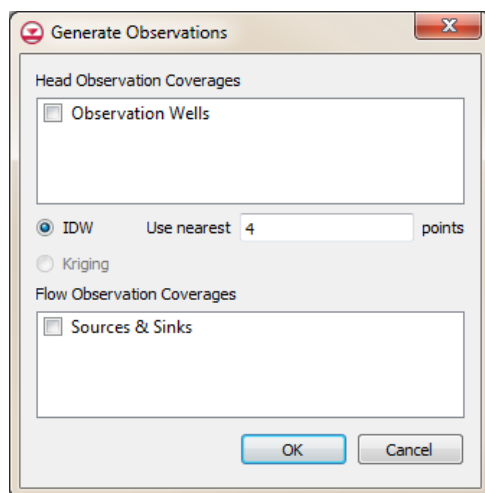

Figure 3 Generate Observations dialog
2. Click on **Generate PEST Obs. Data...** to bring up the *Generate Observations* dialog (Figure 3).